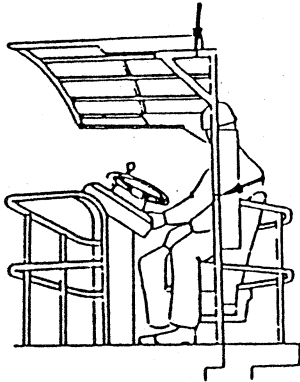

Fig. 3 Canopy (stood)
- 1 Stand the canopy to up- light position as Fig. 3, if canopy is equipped on the roller and lock it with lock pins attached to the canopy. Fasten the canopy sheet. Firmly secure the lock pins with cotter pin.